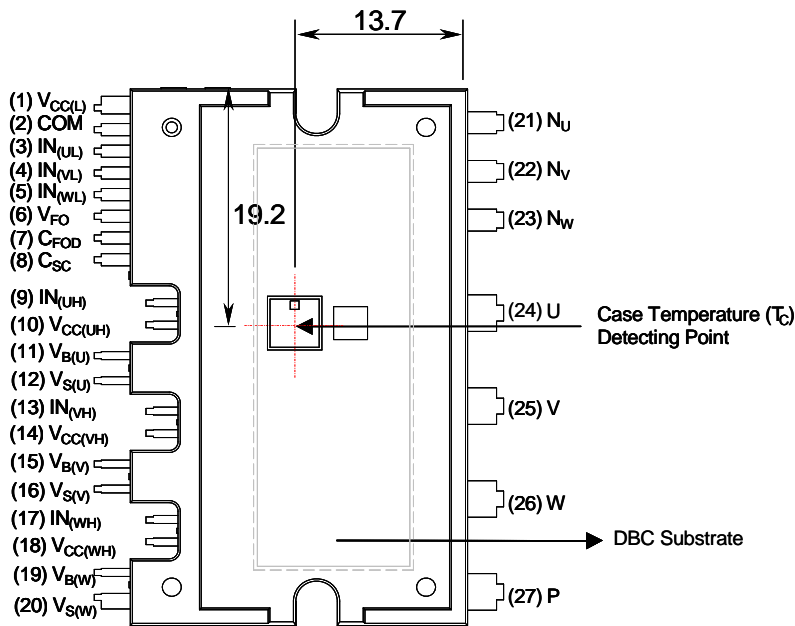

Figure 2. Top View
| T_C | Module Case Operation Temperature | $-20^\circ\text{C} \leq T_J \leq 125^\circ\text{C}$, See Figure 2 | -20 ~ 100 | $^\circ\text{C}$ |
- For the measurement point of case temperature(T_C), please refer to Figure 2.